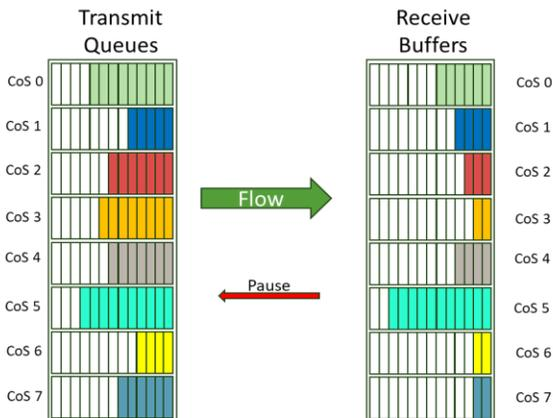
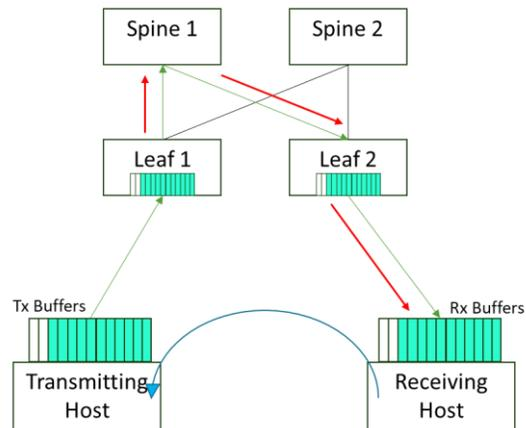

Figure 3 - Per-Priority Flow Control via Pause Frames
Figure 4 - Explicit Congestion Notification via CNP
Several core individual enablers exist to meet these goals, including Per-Priority Flow Control (PFC), as shown in Figure 4, which allows traffic to be paused by class of service. Another key aspect of managing congestion to ensure lossless behavior is depicted in Figure 3, where an Explicit Congestion Notification (ECN) is signaled by setting a Congestion Experienced (CE) value in the DSCP portion of the IP header on these intermediate switches. This setting enables the receiver to inform the sender to slow down, preventing traffic loss.